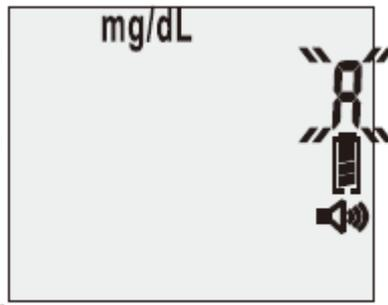

Figure 3-16
2. To flag an after-meal test, press the “R ” right function button three (3) times after you hear: “**Apply blood now.**” You will then hear: “**Ready for test after meal.**” Apply blood to the edge of the strip. You will hear “**Testing in process**” (see Figure 3-16).